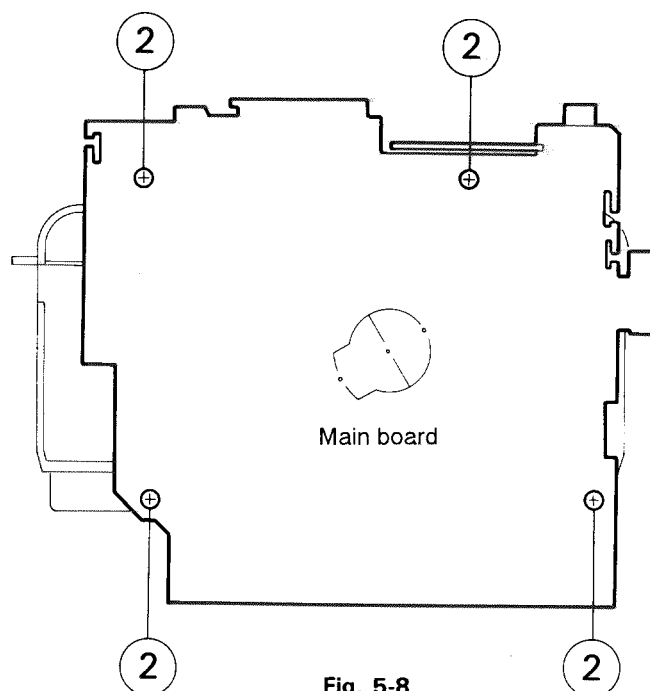

Fig. 5-8
(See Figs. 5-8~10)
2. From the back of the cassette mechanism assembly, remove the four screws (2) retaining the main board (See Fig. 5-8).